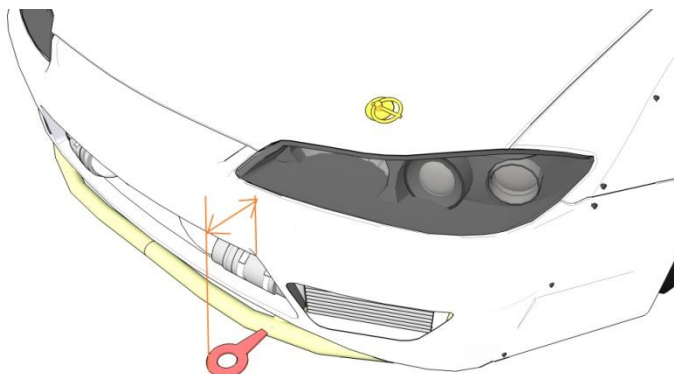
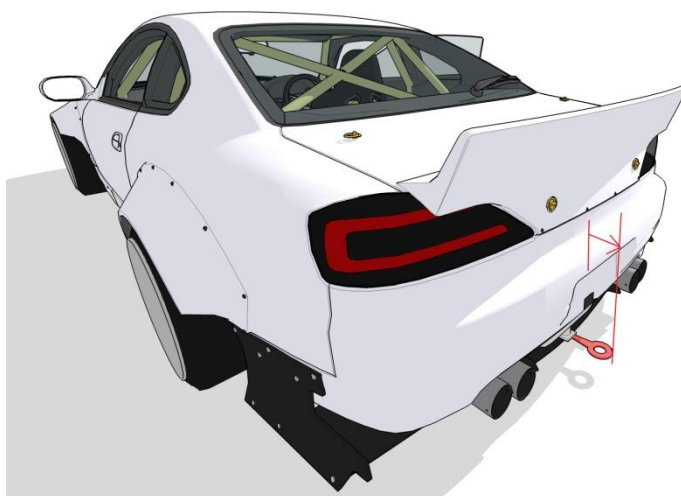

Fig. 19
Fig. 20
- If the hook is made of metal, it may not protrude more than 75.0 mm and it may not have sharp edges (Figure 19 and Figure 20).